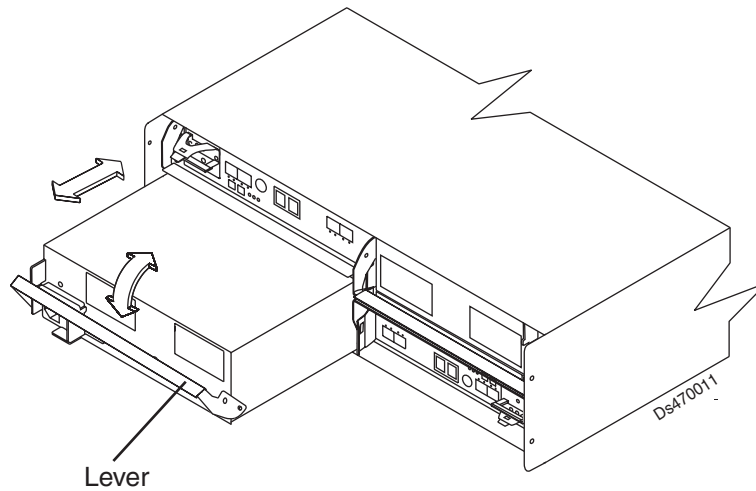

Figure 22. Removing a power supply and fan unit
2. Slowly pull the lever away from the chassis to remove the power supply and fan unit, as shown in Figure 22 on page 43.